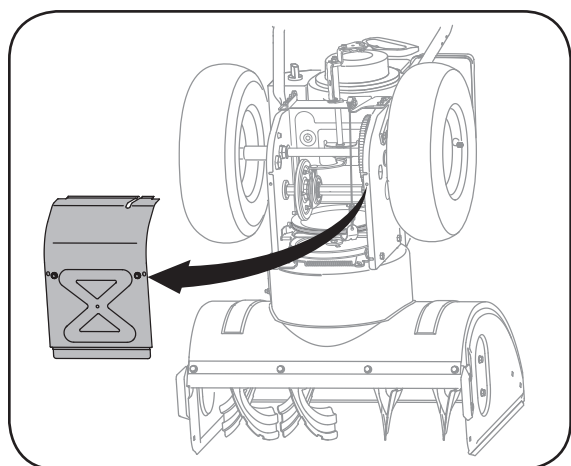

Figure 6-5
1. With the snow thrower tipped forward (be certain to drain gasoline or place plastic film under the gas cap if the snow thrower has already been operated), remove the frame cover underneath the snow thrower by removing the self-tapping screws. See Figure 6-5 on page 17.
2. Carefully pivot the snow thrower up and forward so that it rests on the auger housing. Remove the frame cover from the underside of the snow thrower by removing four self-tapping screws which secure it. See Figure 6-5.